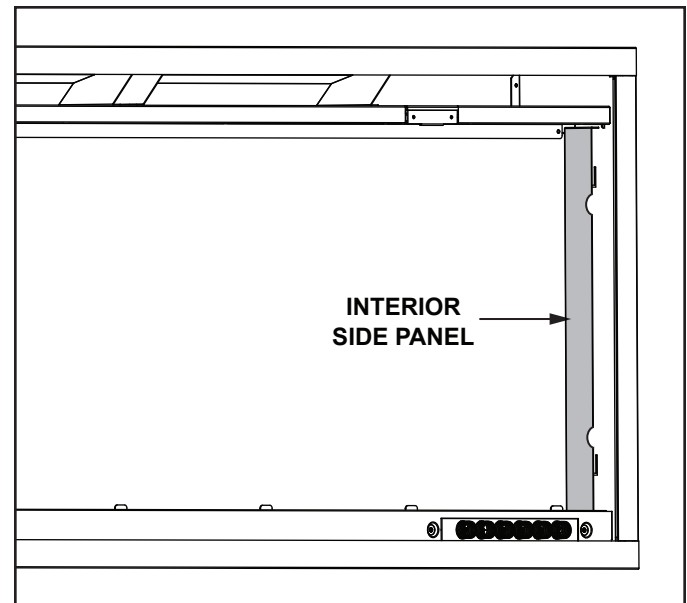

Figure 7.2 Interior Side Panels
6. Install magnetic interior side panels (located in accessory box). See Figure 7.2.